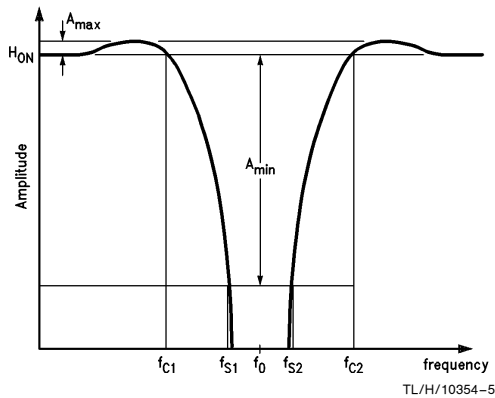

FIGURE 1. General Form of Notch Response
W (Pin 1)	This three-level logic input sets the width of the notch. Notch width is $f_{C2}-f_{C1}$ (see Figure 1). When W is tied to V^+ (pin 14), GND (pin 13), or V^- (pin 8), the notch width is $0.55 f_0$, $0.26 f_0$, or $0.127 f_0$, respectively.
A_{max} : the maximum amount of gain variation within the filter's passband (See *Figure 1*). For the LMF90, A_{Max} is nominally equal to 0.25 dB.
A_{min} : the minimum attenuation within the notch's stopband. (See *Figure 1*). This parameter is adjusted by programming voltage applied to pin 10 (D).
Passband: for a notch filter, frequencies above the upper cutoff frequency (f_{C2} in *Figure 1*) and below the lower cutoff frequency (f_{C1} in *Figure 1*).
Stopband: for a notch filter, the range of frequencies for which the attenuation is at least A_{min} (f_{S1} to f_{S2}) in Figure 1).